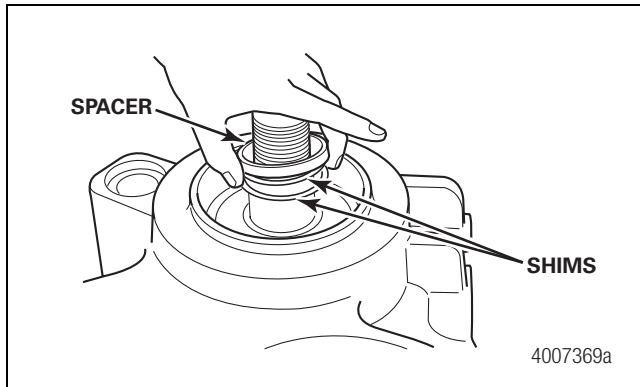

Figure 6.18
4. Install the shims and spacer over the shaft. If you are replacing the bearings, install a starting shim pack thickness of 0.036 inch (0.91 mm) or use the same thickness that was removed. Figure 6.18.